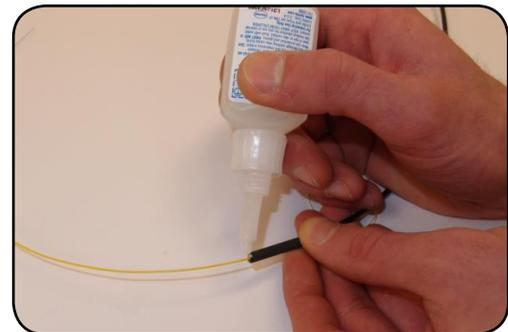

Figure 10
**Step 10:** Now apply a generous amount of super glue to the 900um furcation tubing between the FieldShield cable and the mark and then while rotating, slide the furcation tubing up to the 6 inch mark on the 900um tubing (**Figure 10**).